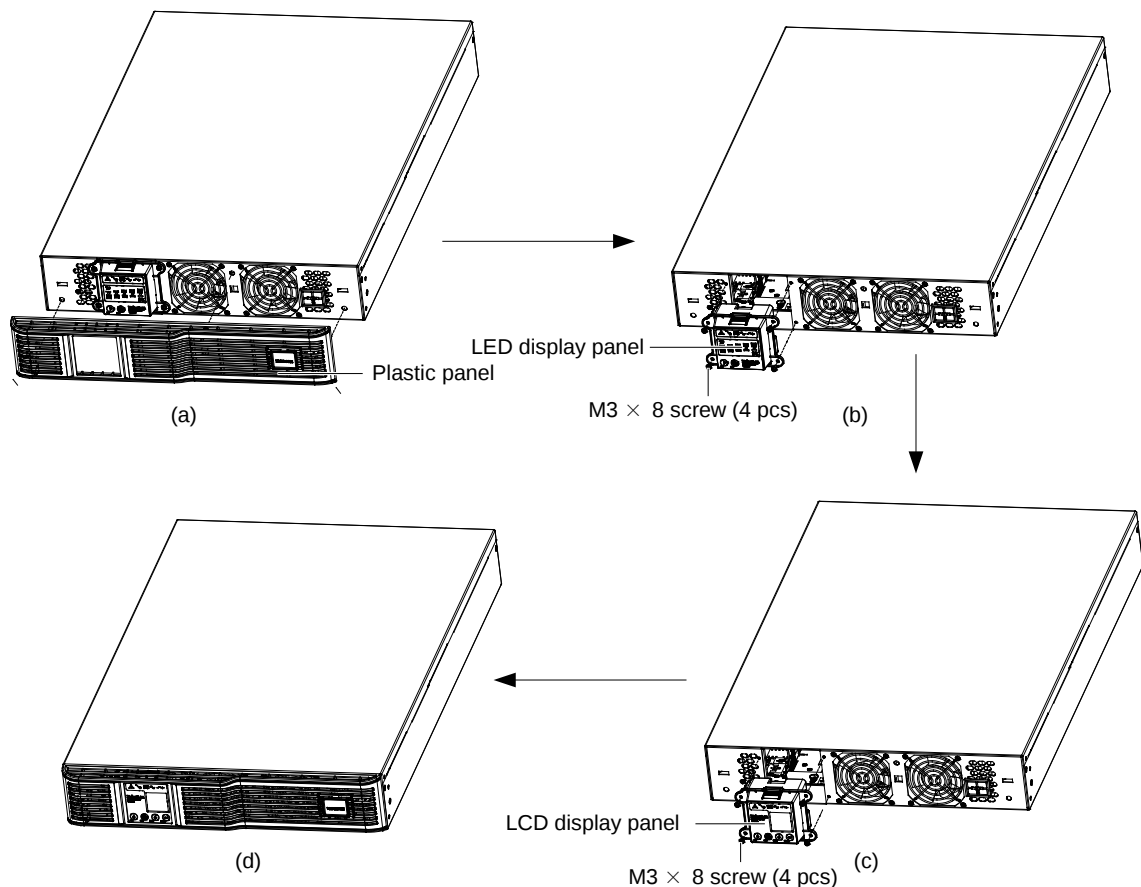

Figure 5 Installing the LCD display panel
2. Press two ends of the UPS plastic panel with hands, and gently pull out the plastic panel, as shown in Figure 5(a).
3. Use a screwdriver to remove the four M3 × 8 screws, which fix the LED display panel and the UPS chassis. Pull out the LED display panel and cables from the chassis, as shown in Figure 5(b). Disconnect the two cables connecting to the LED display panel, and remove the LED display panel.
4. Connect the two cables to the LCD display panel, and fix the LCD display panel with four M3 × 8 screws, as shown in Figure 5(c).
5. Install the plastic panel back to its position, as shown in Figure 5(d).